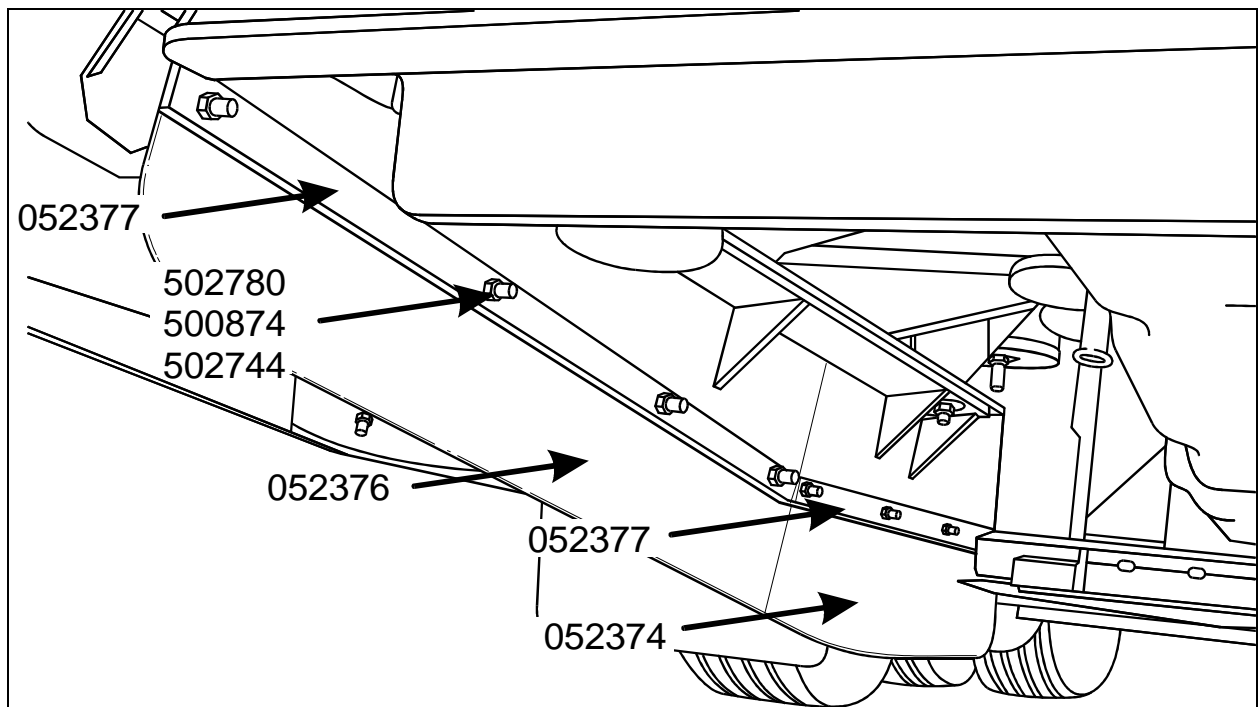
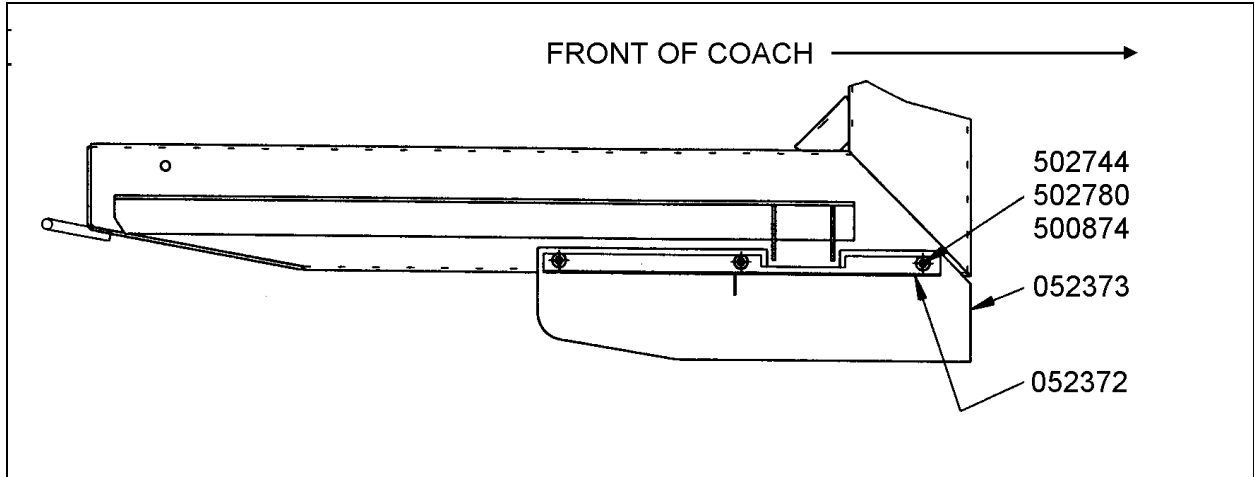
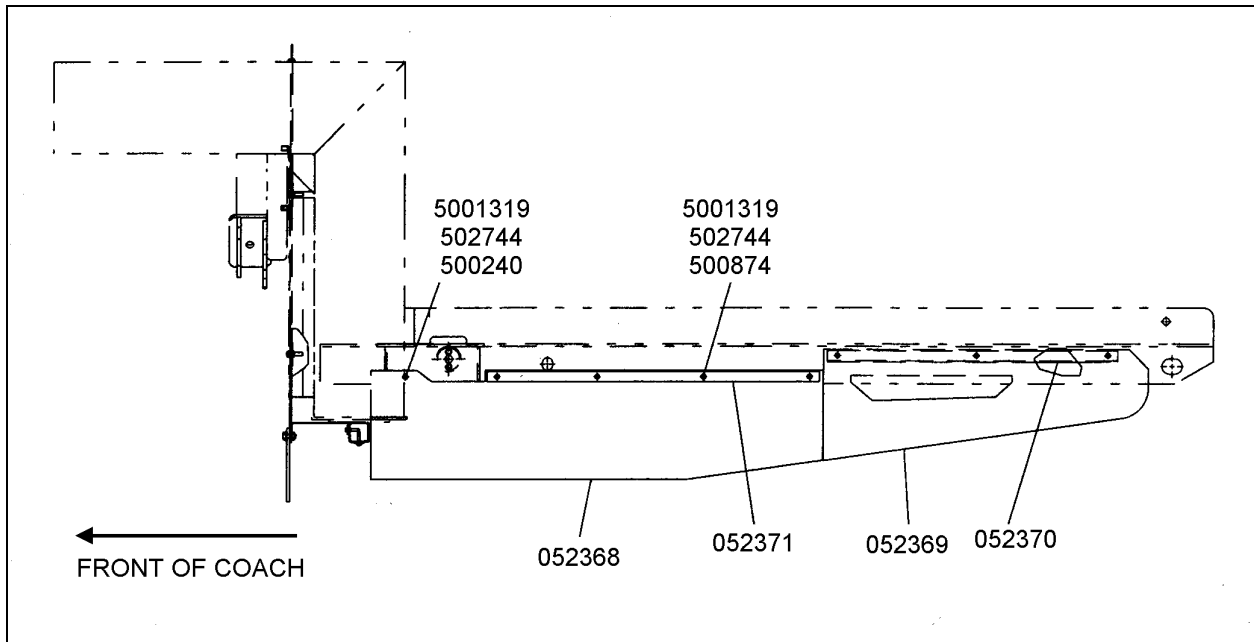

FIGURE 1: WARM AIR BAFFLE (KIT # 052381) INSTALLED ON THE FRAME RAIL OF AN H3-41 OR H3-45 VEHICLE
FIGURE 2: WARM AIR BAFFLE (KIT # 052379) INSTALLED ON THE FRAME RAIL OF AN XL-40 OR ENTERTAINER
FIGURE 3: WARM AIR BAFFLE (KIT # 052380) INSTALLED ON THE FRAME RAIL OF AN XL-45 VEHICLE
3. Test fit the new baffles for proper position on the inside of the frame side rail, under the engine cradle, on the driver's side (see figure 1 for H3-41 and H3-45 vehicles, figure 2 for XL-40 and Entertainer vehicles, and figure 3 for XL-45 vehicles);